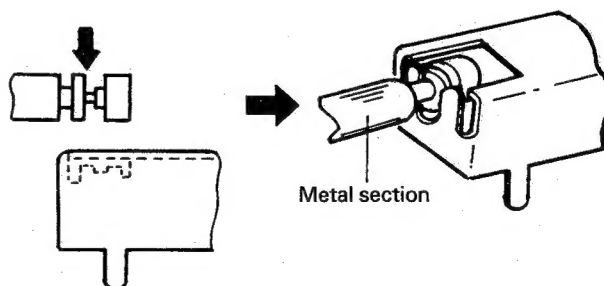

Fig. 2
4. When connecting a remote switch, insert it from above as shown in Fig. 2. In this case, press it in sufficiently in order to prevent it from floating during operation.